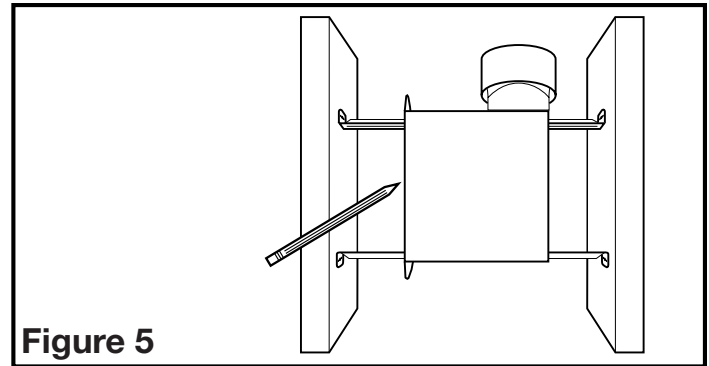

Figure 5
1. **Mounting Rail Installation:** Set housing in position between the joist and trace an outline onto the ceiling material (**Figure 5**). Set housing aside and cut opening, being careful not to cut or damage any electrical or other hidden utilities. Install the rails on the housing and position the housing in the previously cut hole so that it is flush with the finished ceiling. Secure the ends of the rails to the joists (**Figure 3**).